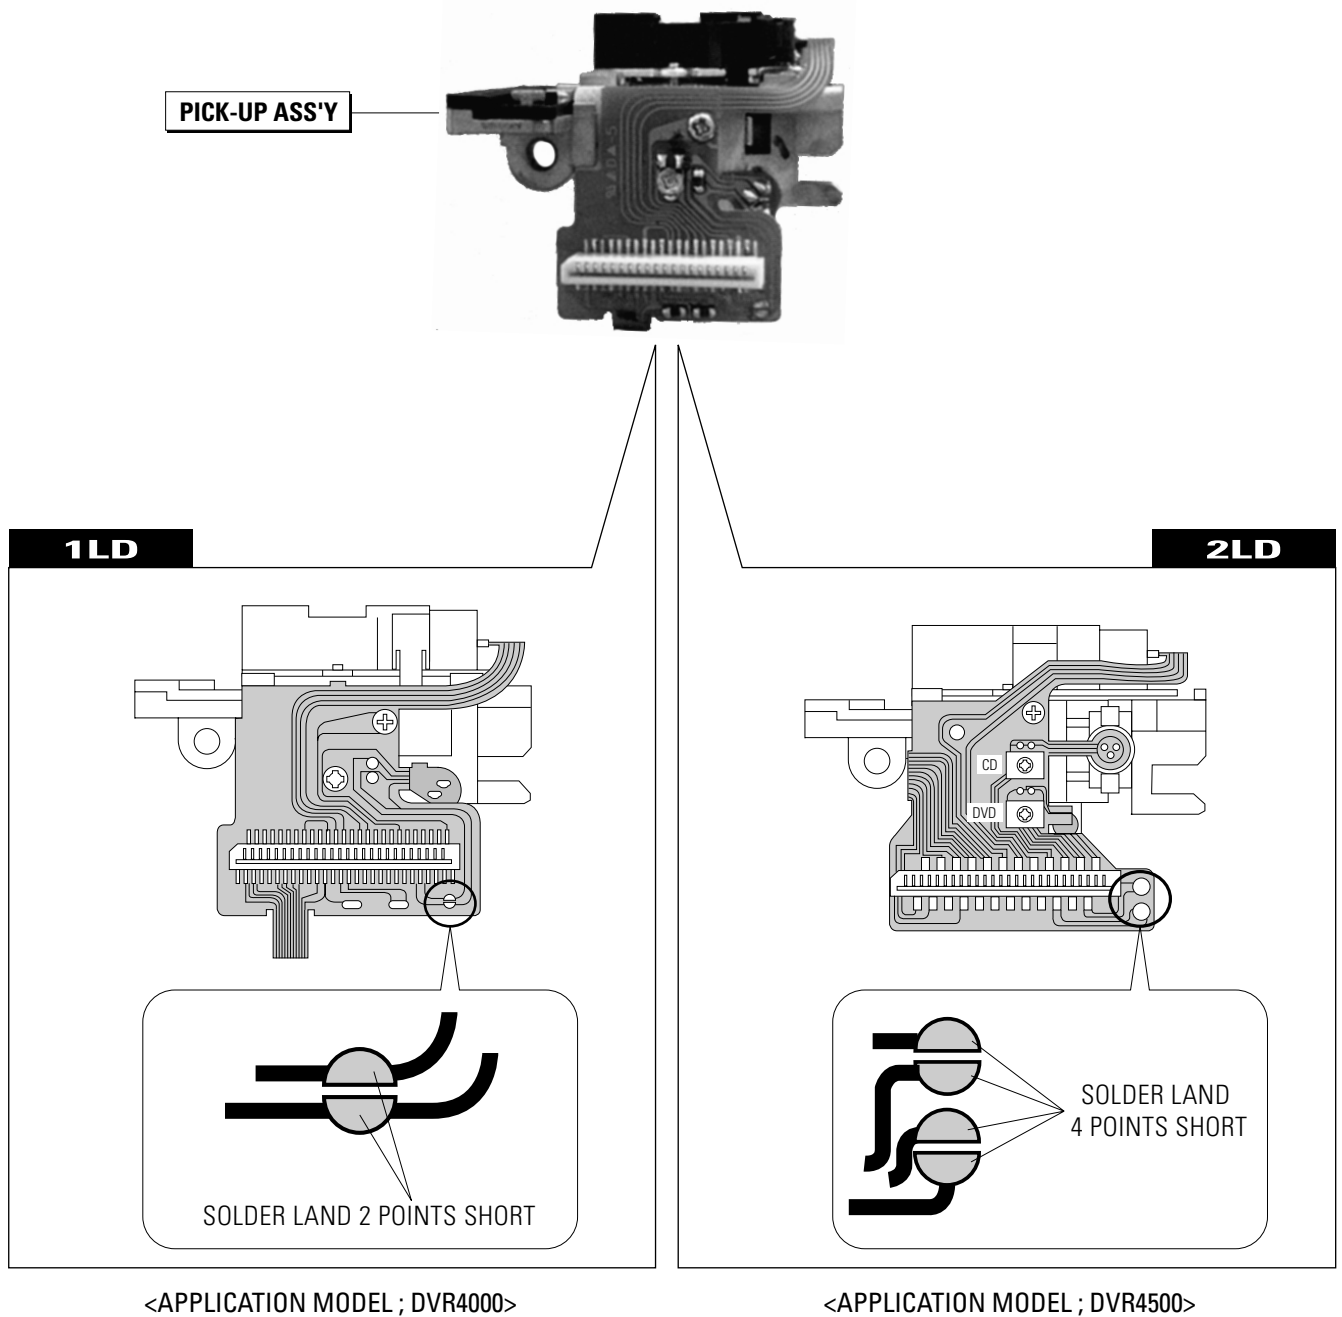

Fig. 1-3
- 3) Make solder land 2 points short (2LD ; 4 points) on Pick-up. (See Fig. 1-3)